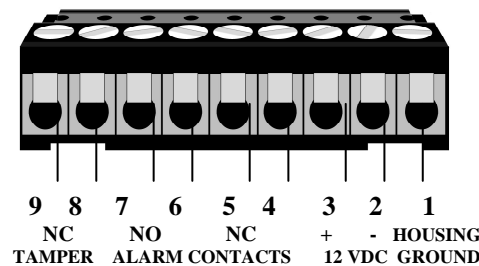

Figure 5 – PIRAMID Terminal Connections SDI-76/SDI-77
4. Connect the wires to the terminal strip in accordance with the diagram on the printed circuit board, which is reproduced in Figure 5.